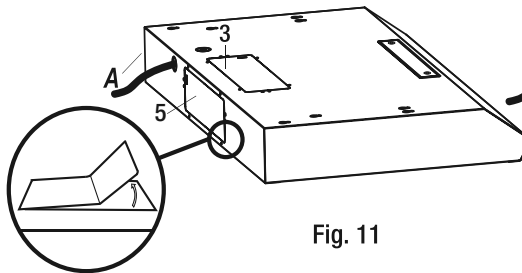

Fig. 11
- Choose the venting hole to remove for your installation type. Use the top hole (3) for a top venting installation and the back hole (5) for a back venting installation.
- Carefully remove the cover (3 or 5) of the appropriate venting hole using a flat head screwdriver or needle nose pliers (refer Fig. 11). Be careful not to leave any debris inside the range hood (A).